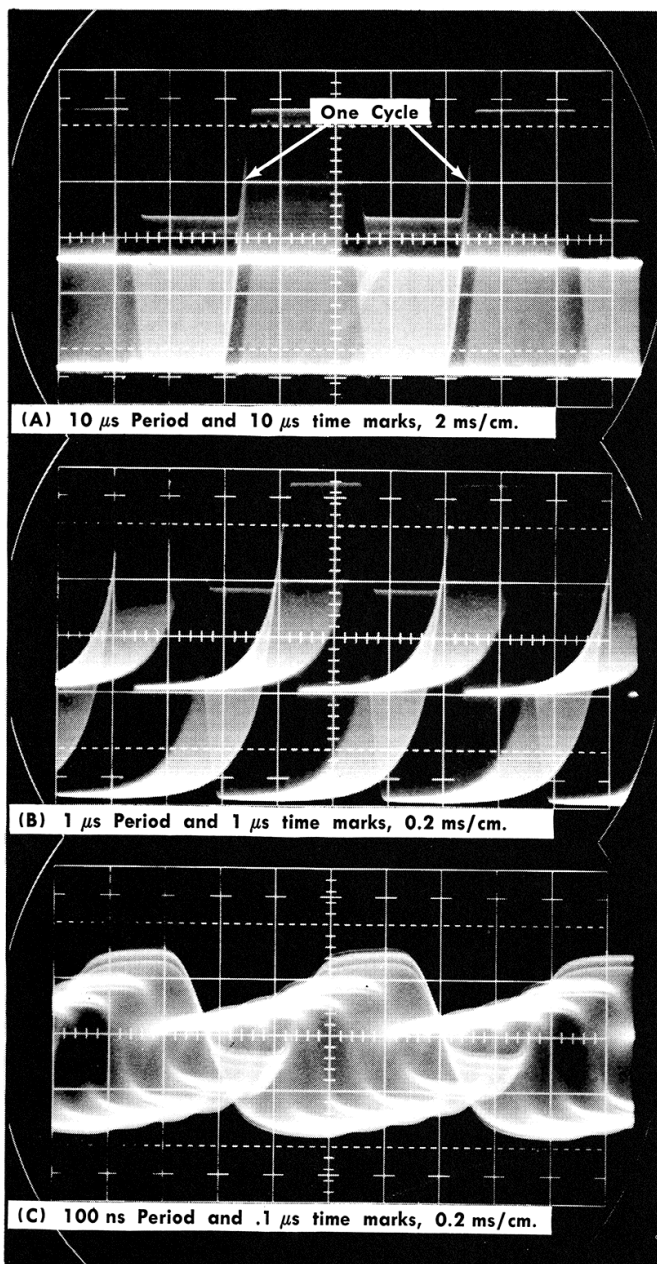

Fig. 6-14. Typical test oscilloscope display of beat frequency.
b. Adjust the Trigger Level control on the test oscilloscope to obtain a beat frequency display; see Fig. 6-14.